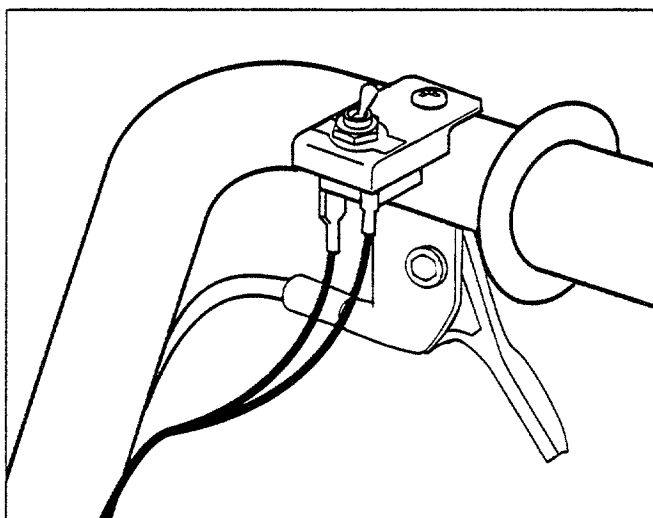

Figure 7: Both wire leads from the On-Off Switch must be connected to their corresponding engine leads.
16. Two wire leads come from the top of the On/Off switch assembly. See Figure 7. Each wire has a different color connector.